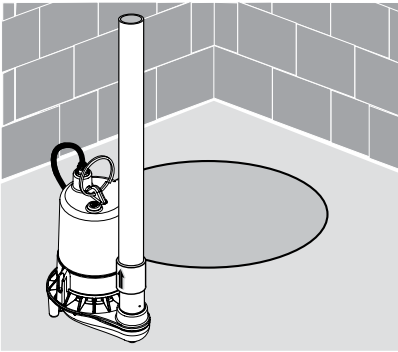

Figure 2
4. Install a check valve in the vertical pipe (see Figure 2) to prevent flow backwards through the pump when it shuts off. To prevent airlocking the pump, drill a 1/8" (3.2 mm) hole in the discharge pipe just above where it screws into the pump discharge. Install the check valve above this hole, but keep it as close to the pump as possible. Be sure the hole is below the waterline and below the check valve.